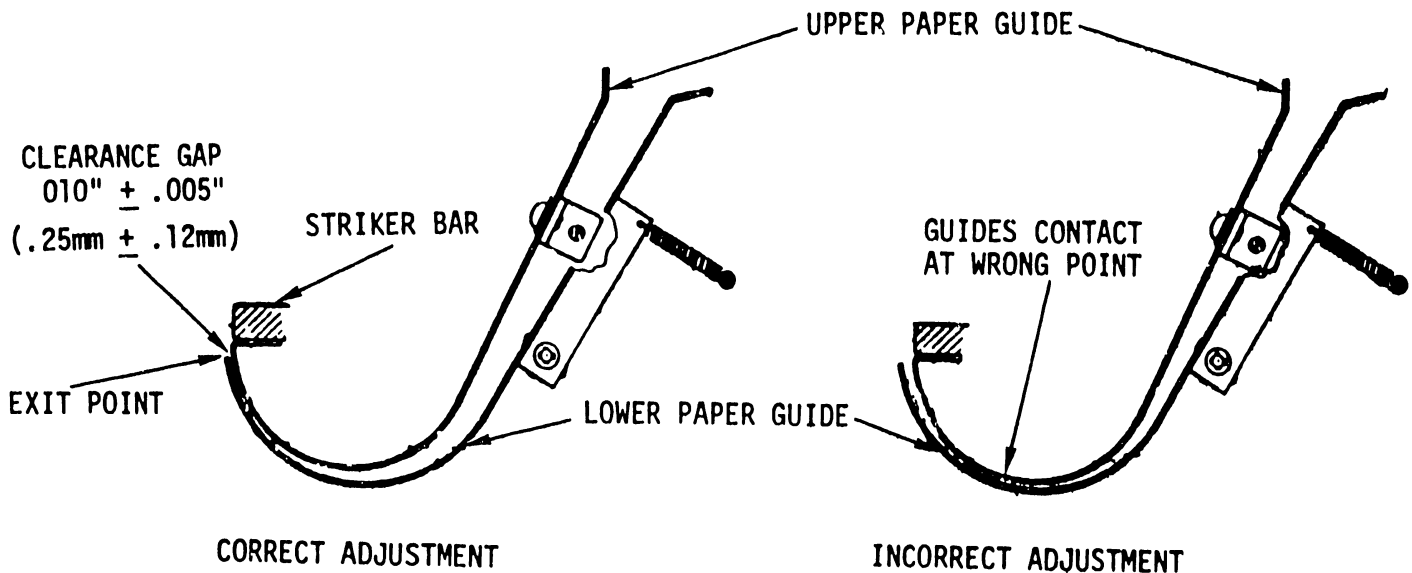
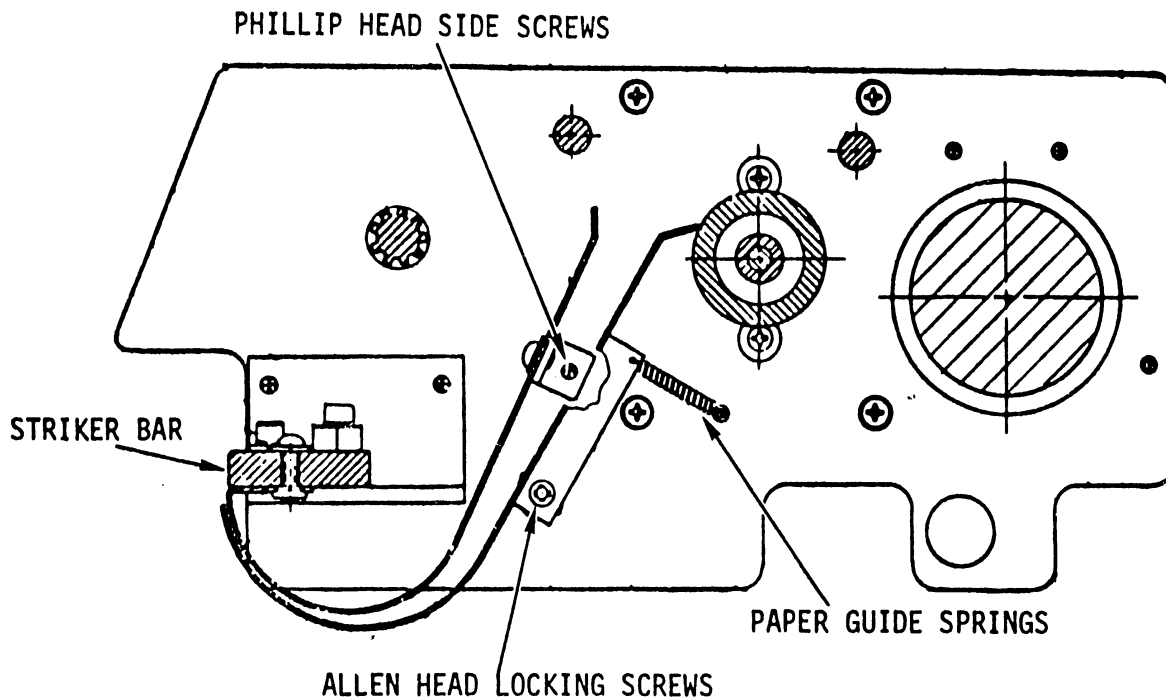

FIGURE 5-7 PAPER GUIDE ADJUSTMENTS
FIGURE 5-8 EARLY MODEL PAPER GUIDE ADJUSTMENT
If the two guides contact at another point rather than at the front of the machine as below, in Figure 5-7, a bind will be felt long before the paper exits the guides.
- 1) Loosen both locking screws of the lower paper guide (see Figure 5-8). If the unit is an early #2 model, back off the height adjusting screws on either end of the striker bar so no contact is made between the guide and the screws (Figure 5-6B).
- 2) Hold the rear middle of the lower paper guide and push its upper rear edge down. This causes the two guides to make contact. While observing each side of the guides at their front edge, move the lower guide until it contacts the upper guide at the exit point (Figure 5-7). When this is complete, continue to hold the guide while checking for parallelism. When the guides are parallel, tighten the locking screws (Figure 5-8). Do not release the guide until both screws are tight.
- 2) Remove paper guide springs (Figure 5-8).
- 4) Remove locking screws on each side frame. This allows the lower guide to be tilted up and out from the rear. While doing this, the hex nuts will probably fall out of the holes in the paper guide. They fit on the outside of the guide pointing in (see Figure 5-8).
- 6) Remove the two side screws which attach the guide to the side frames (Figure 5-8).